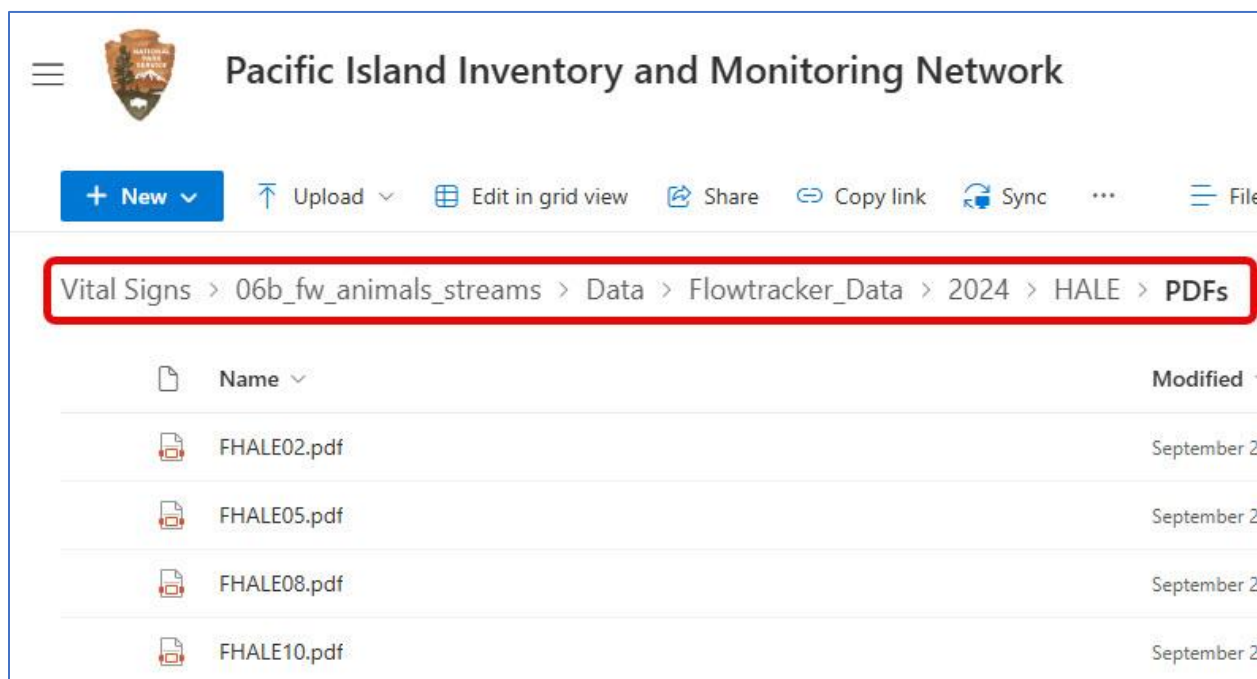

Figure SOP 24.17. Example of where to save processed PDF FlowTracker file in SharePoint for 2024 HALE data.
- Upload Processed PDF files to “PDFs” folder for the appropriate park and year which are subfolders within the “Flowtracker Data” folder in SharePoint (Figure SOP 24.17).